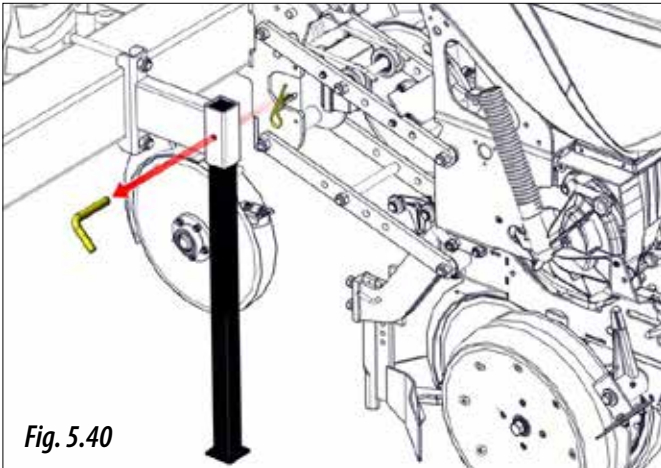

Fig. 5.40
- 2- Remove the clip and pin (Fig. 5.40) to release the foot.